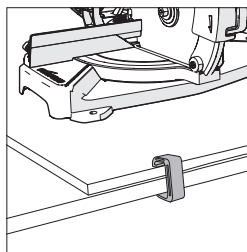

Fig. 2
- Use G-clamps to attach the mounting board to the work surface (**Fig. 2**).